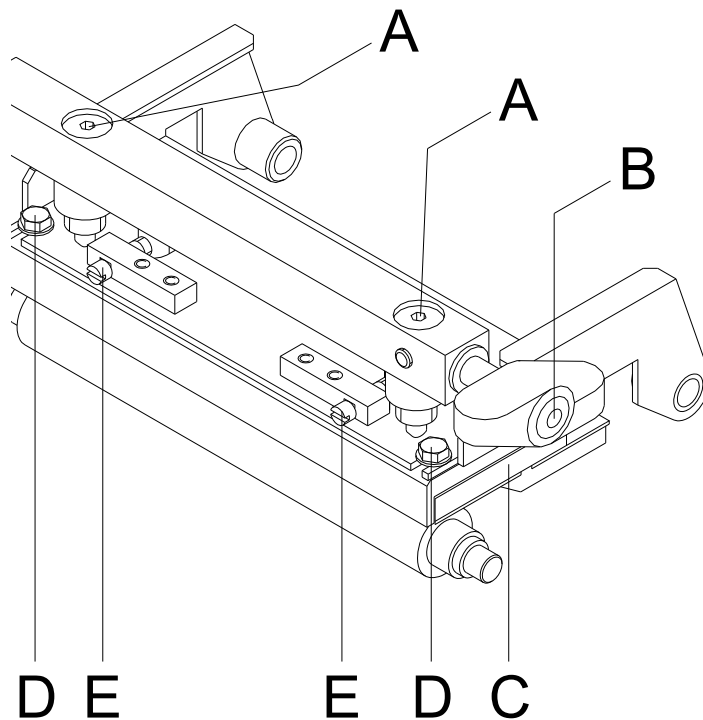

Figure 13
1. Turn pressure screws (A, Figure 13) to change the pressure of printhead.
2. Turning the pressure screws (A, Figure 13) in clockwise direction results in a pressure increase.
3. Turning the pressure screws (A, Figure 13) counter clockwise results in a pressure decrease.